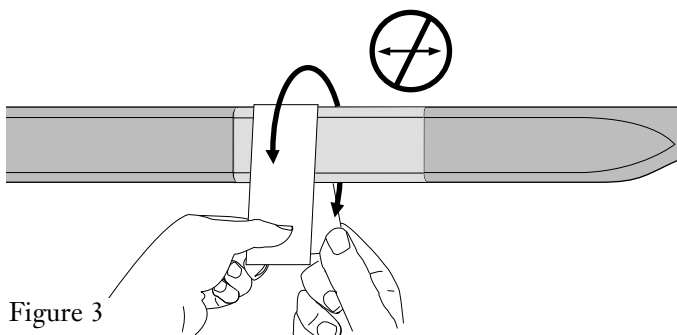

Figure 3
4.3 Carefully scuff the eight-inch area marked in Step 4.2 with a piece of medium-grit sandpaper. Take care to scuff *around* the closure, do not sand lengthwise along the closure (Figure 3)